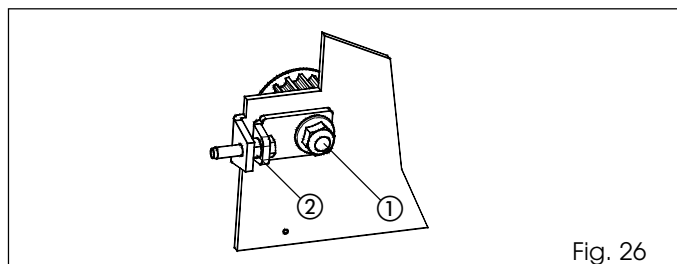

Fig. 26
- Loosen the nut (fig. 26 ref. ①).
- Screw the nut of fig. 26 ref. ② to exert tension on the belt or unscrew it to slacken the belt.
- When you have adjusted tension, tighten the nut (fig. 26 ref. ①).